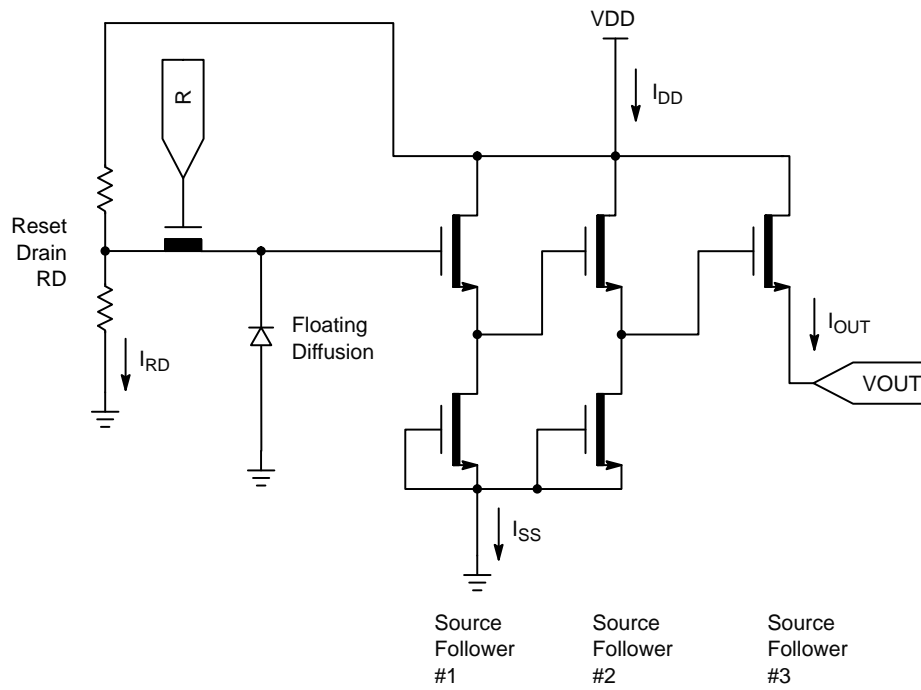

Figure 13. Output Amplifier
15. Each output. See Figure 13. Note that the current bias affects the amplifier bandwidth.
18. The maximum DC current is for one output unloaded and is shown as IRD + ISS in Figure 13. This is the maximum current that the first two stages of one output amplifier plus the reset drain bias circuit will draw. This value is with VOUT disconnected.